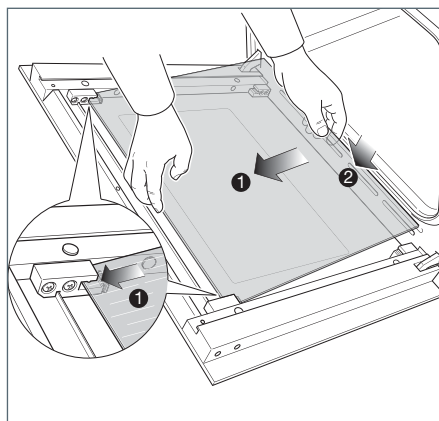
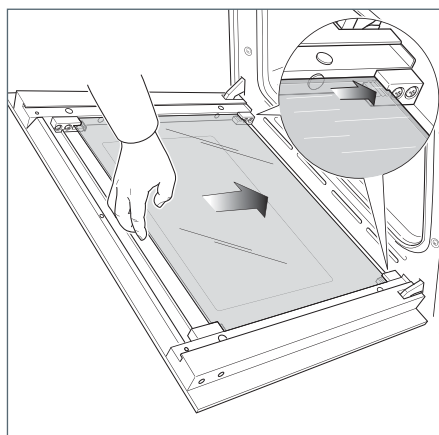

Fig.38b
Fig.38c
- Gently insert the top edge of the pane into the top clamps (arrow 1 in Fig. 38b), then lower the pane and insert the bottom edge into the bottom clamps (arrow 2 in Fig. 38b); and then slide the pane into position (Fig. 38c).